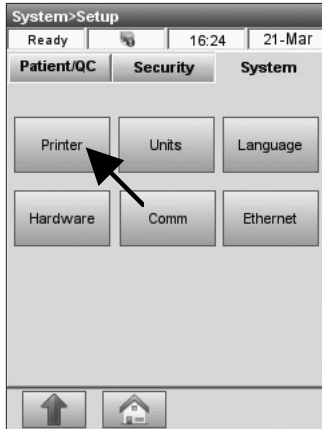

Fig. 3-70 Select Printer
2. In the **<System Setup>** menu, press the **<System>** tab and then **<Printer>** (Fig. 3-70).